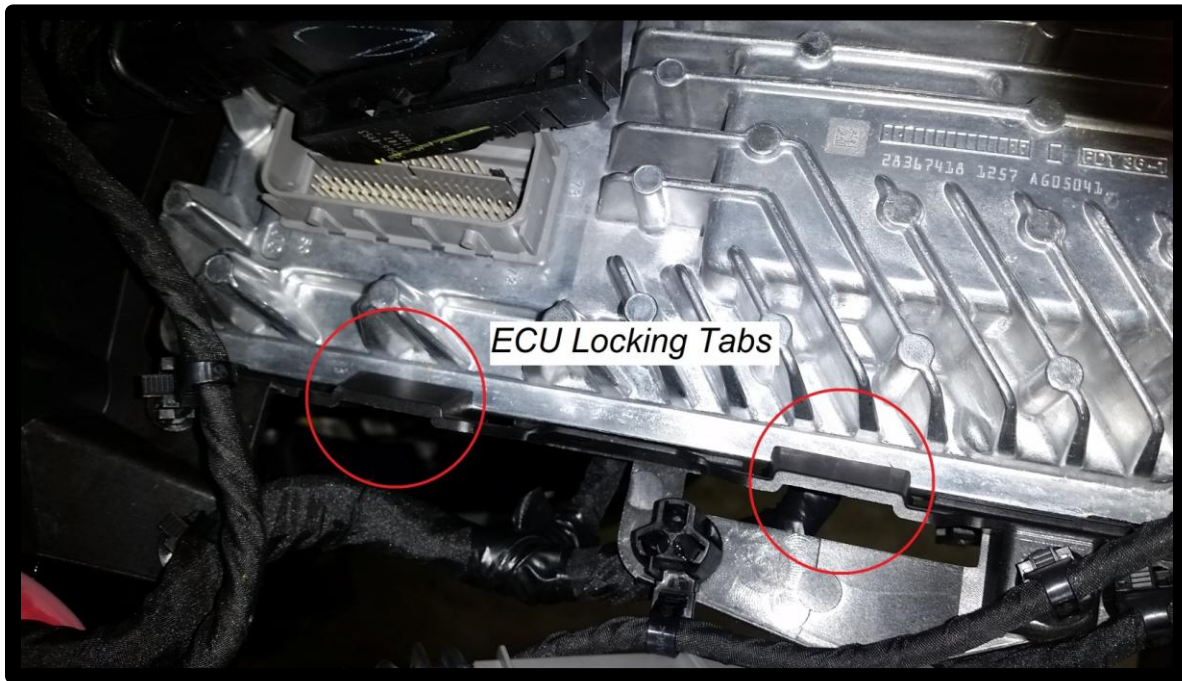

Figure 15: ECU Removal
16. Remove the three main ECU connections from the ECU; they are color coded with the ECU to help when reinstalling them later. To remove the ECU press the two tabs away from the ECU and pull the ECU out, see Figure 15.